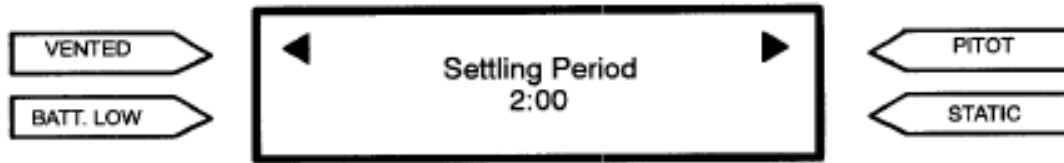

Figure 20 Resetting the Settling Period
- B. The screen for changing the settling period will be displayed (*Figure 20*).
- B. Press the SEL key twice to select Maintenance Menu 3, CALIBRATION. The screen prompts for a password (*Figure 20*). The password is a 4-digit number and four asterisks are displayed; the first of which (reading from the left) is shown flashing. Use one of the +/- keys to change the first asterisk (*) to a digit then use them to raise or lower the digit to the correct value. Press SEL. The cursor moves to the second digit which starts flashing. Using the +/- keys enter the second digit. Repeat for the remaining two digits. If the wrong password is entered, the caption 'INCORRECT PASSWORD' is shown momentarily before the screen reverts back to that shown in *Figure 21*.